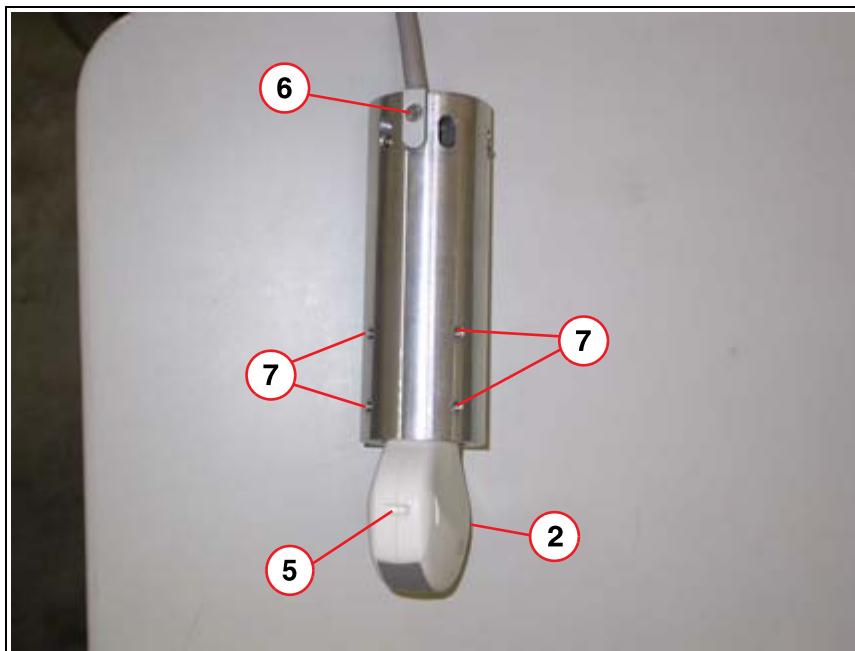
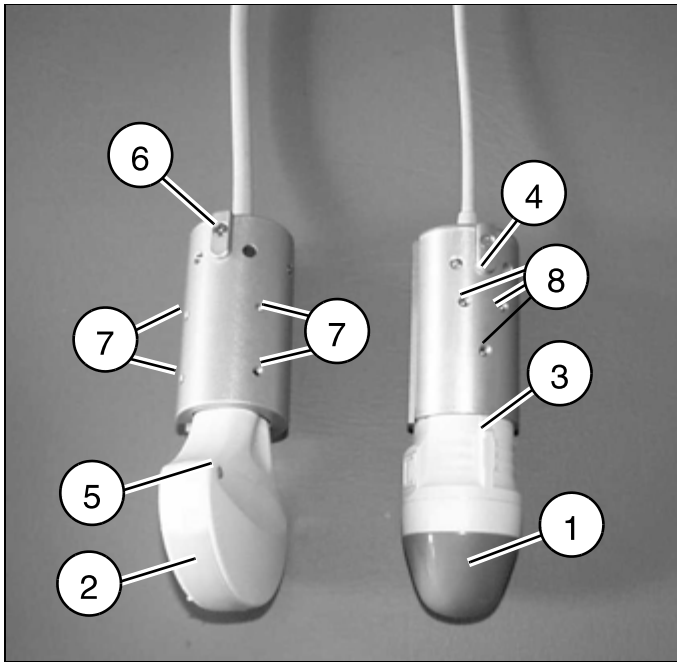

Fig. 42: Applicator_1
Fig. 43: Probe
- Slide the sleeve onto the sector probe to the extent possible (1/Fig. 43 / p. 40). Ensure correct positioning, the mark (3/Fig. 43 / p. 40) and (4/Fig. 43 / p. 40) must be lined up.
- Tighten the 6 screws (3 not visible) (8/Fig. 43 / p. 40).
- Slide the sleeve onto the array probe to the extent possible (2/Fig. 42 / p. 39) and (2/Fig. 43 / p. 40). Ensure correct positioning, the narrow side with the marking ((5/Fig. 42 / p. 39) and (5/Fig. 43 / p. 40)) must be lined up with the guide nub ((6/Fig. 42 / p. 39) and (6/Fig. 43 / p. 40)).
- Tighten the 8 grub screws (4 not visible) ((7/Fig. 43 / p. 40) and (7/Fig. 43 / p. 40)).